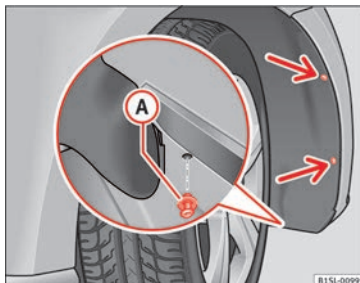

Fig. 86 In the front right wheel arch: Remove the retaining screws (arrows) and take out the expansive rivet **A**.
1. Unscrew the 2 retaining screws of the wheel arch trim » Fig. 86 (arrows) with the screwdriver from the vehicle tool kit » page 71.
10. Place the expansive rivet in the wheel arch trim and bumper and press it completely inwards **»» Fig. 86 (A)**.
11. Securely screw the 2 retaining screws **»» Fig. 86** (arrows) with a screwdriver.